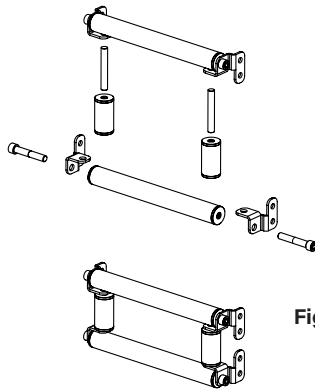
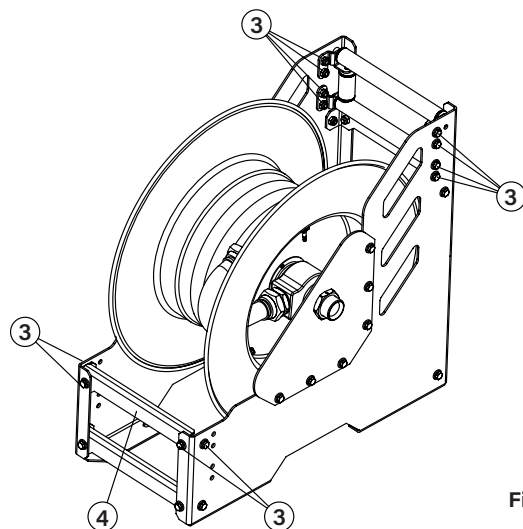

Fig. 3
Fig. 4
5. Assemble between then, the hose outlet components took apart previously as shown (Fig. 3), and take them to their new position as shown. Then, screw the bolts (3) (Fig. 4).
6. Finally, assemble the crosspiece (4) (Fig. 4) at the indicated position.